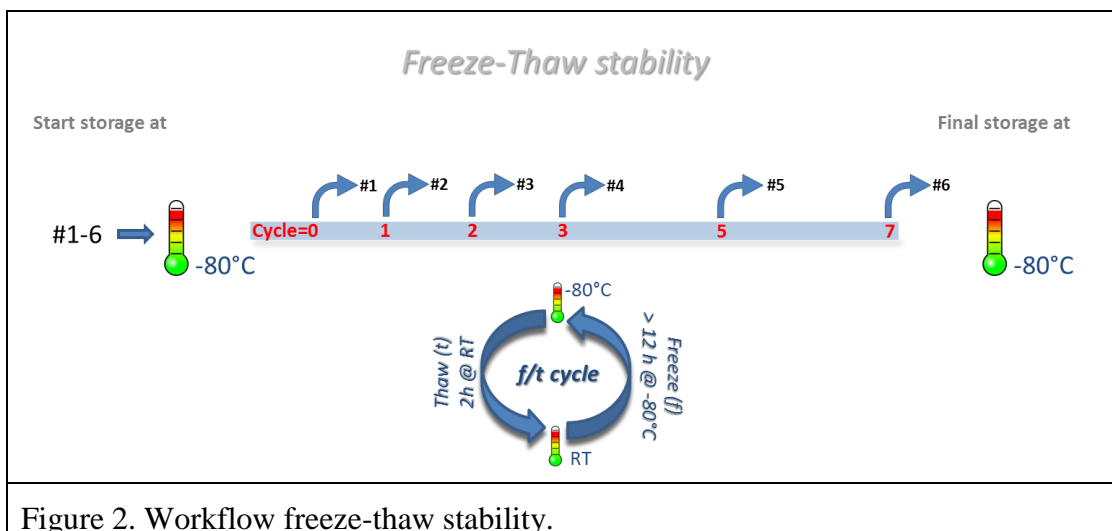

Figure 2. Workflow freeze-thaw stability.
5. Thaw aliquots #3-6 and store again at  $-80^{\circ}\text{C}$  (see fig.2).